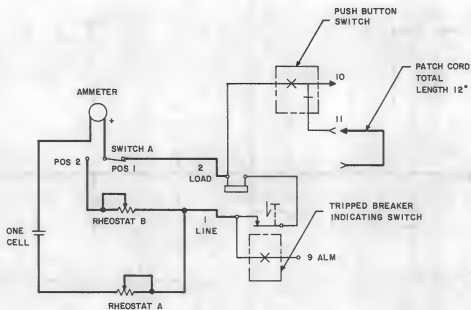

Fig. 41—Checking Circuit—DC Breaker—KS-21225 L20, L30, L100, L112
1. Refer to Fig. 41. In addition to the time-delay performance check, perform the following.